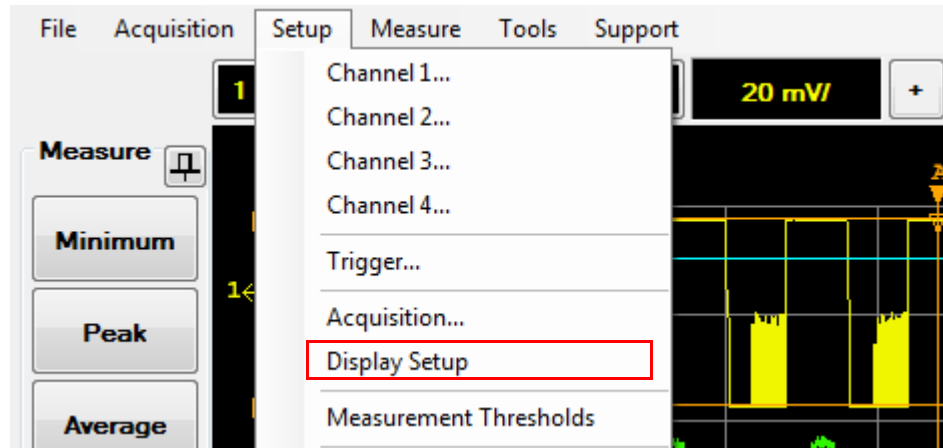

Figure 2-151 Display Setup selection in the Setup menu
- 1 Select **Setup > Display Setup** on the toolbar as shown in Figure 2-151.